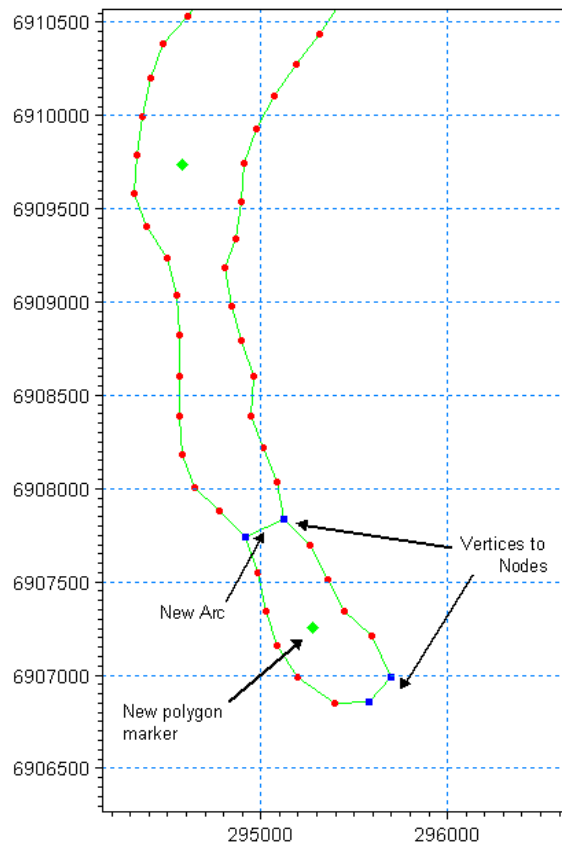

Figure 15.25 Polygon properties for quadrangular mesh
2. Convert two vertices in the inner end of the fjord to nodes as shown in Figure 15.25
3. Convert two vertices at the banks of the fjord to nodes and define a new arc as shown in Figure 15.25